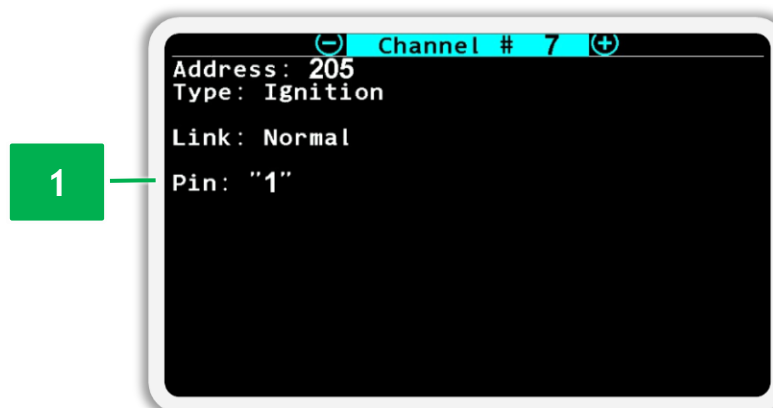

Figure 98 Screen of the ignition key position sensor’s status view
- o displays the current value of the logic level of the signal at the input of the input device (see Figure 98 p.1).